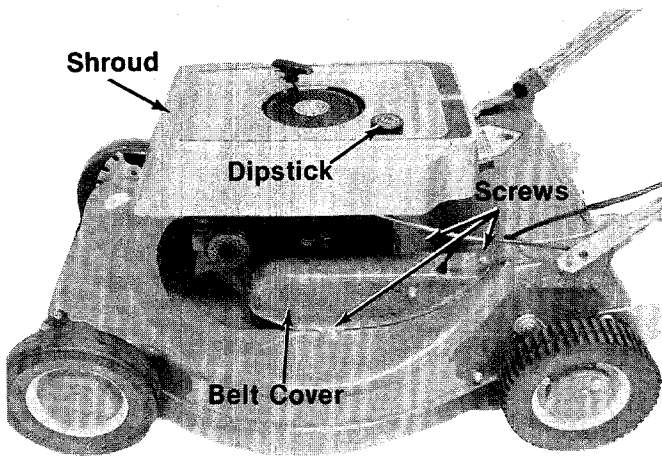

FIGURE 20.
3. If so equipped, remove the dipstick, remove the shroud, and replace the dipstick. See figure 20.
4. Remove the three screws which hold the belt guard (and idler assembly). See figure 20.